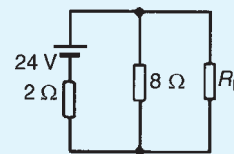

Figure 13.87
2. Determine the value of the load resistance R_L shown in Fig. 13.87 that gives maximum power dissipation and find the value of the power.